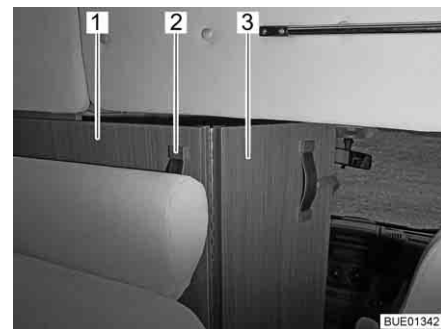

Fig. 56 Driver's cabin partition
- Grip the handle (Fig. 56,2) of the driver's cabin partition (Fig. 56,1) and pull it inwards until the edge of the driver's cabin partition is roughly level with the backrest of the bench seat (Fig. 56).
- Fold out the folding part of the driver's cabin partition (Fig. 56,3) between the seats of the driver's cabin.